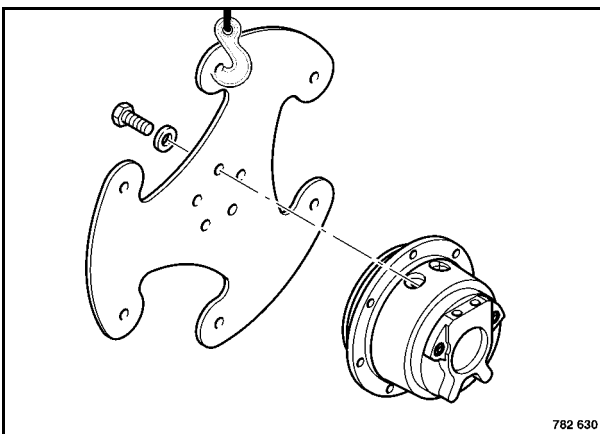

Fig. 21
30. Use screws (Fig. 21) and washers to connect the drum drive motor to the drive disc.